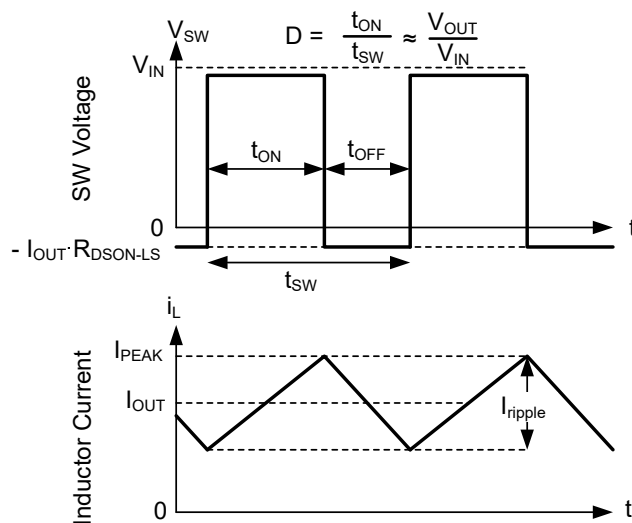

图 8-13. SW Voltage and Inductor Current Waveforms in Continuous Conduction Mode (CCM)
The following operating description of the device refers to 节 8.2 and to the waveforms in 图 8-13. In CCM, the device supplies a regulated output voltage by turning on the internal high-side (HS) and low-side (LS) switches with varying duty cycle (D). During the HS switch on time, the SW pin voltage, V_{SW} , swings up to approximately V_{IN} , and the inductor current, i_L , increases with a linear slope. The HS switch is turned off by the control logic. During the HS switch off time, t_{OFF} , the LS switch is turned on. Inductor current discharges through the LS switch, which forces the V_{SW} to swing below ground by the voltage drop across the LS switch. The converter loop adjusts the duty cycle to maintain a constant output voltage. D is defined by the on time of the HS switch over the switching period: